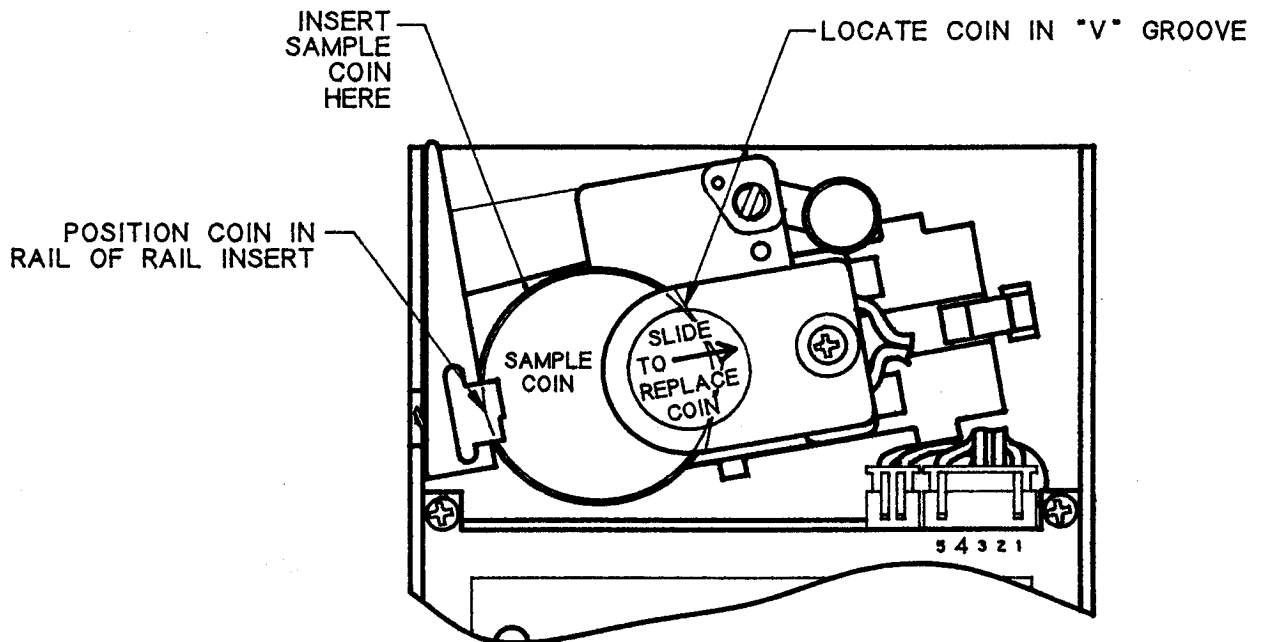

FIG. 3
- 1A. POWER OFF, INSERT PLASTIC TOKEN (SEE FIG. 3).
1 C. IF METER READING IS LOWER THAN 35uADC INSERT SAMPLE COIN (SEE FIG. 3) METER INDICATOR SHOULD DEFLECT TOWARDS 50uADC. IF METER DEFLECTS TOWARDS 50uADC REMOVE SAMPLE COIN AND PROCEED TO STEP 1.D., IF THERE IS NO METER DEFLECTION OBSERVED, COIL ASSY IS FAULTY.